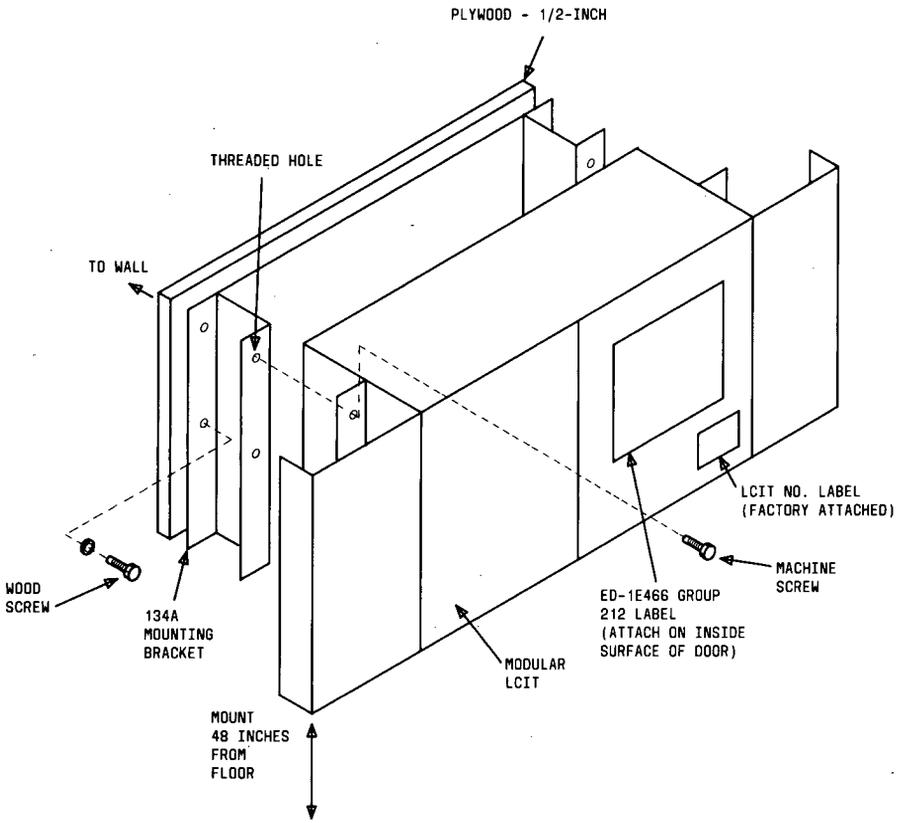

Figure 6. LCIT Installation on Wall
Install the LCIT (Figure 6) as follows:
5. Attach ED-1E466 Group 212 label, and write the LCIT number on the LCIT Number label (factory attached to the LCIT) in the locations shown in Figure 6.